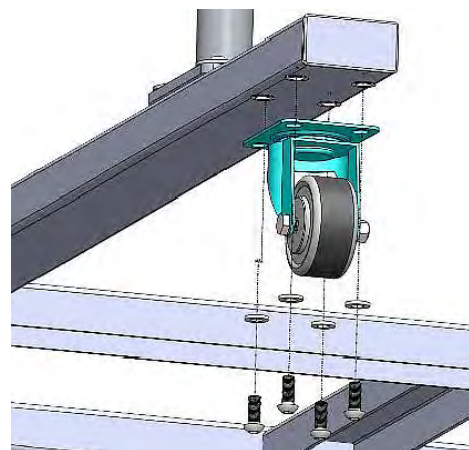

Fig. 6: Fit wheels
Step 2: Attach the wheels to the chassis using the screws and washers (Fig.6)..